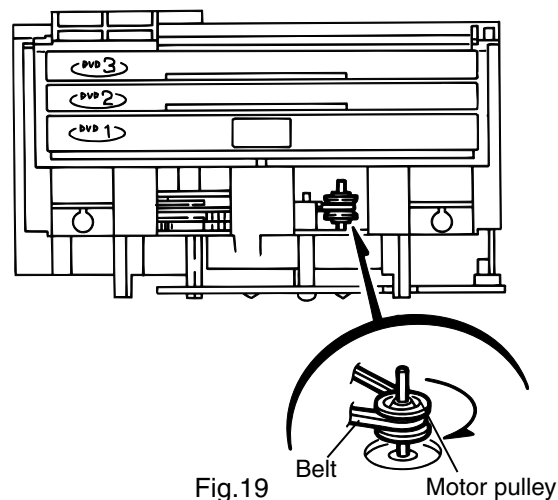

Fig.19
**Ejecting the DVD (See Fig.19 and 20)**